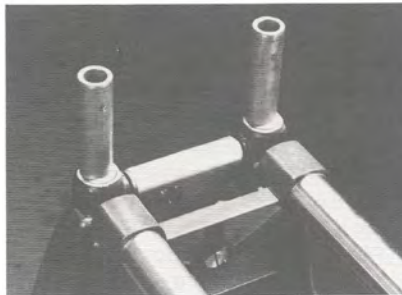

Figure 1. Position the mounting tubes in the Mark V power mount, long end up, with the shoulders of each tube pointing away from the headstock.
3. Install Mounting Tubes — With the Shopsmith Mark V **unplugged**, loosen the accessory mount lock at the left end of the Mark V (the same end as the auxiliary spindle) and insert the eccentric mounting tubes. The **long end** goes up. The offset shoulder of each tube should rest on the Mark V power mount and the shoulders should point away from the headstock. (See Figure 1.)
an arm, and this arm is drawn upward by a flat spring. This mechanism compensates for slight inconsistencies in blade length and tensions the blade. You adjust the tension by turning the blade tension screw to the left of the idler wheel. This screw moves the flat spring, increasing or decreasing tension. The proper tension for various blades is indicated on a scale above the blade tensioning screw. (See Figure 1.)